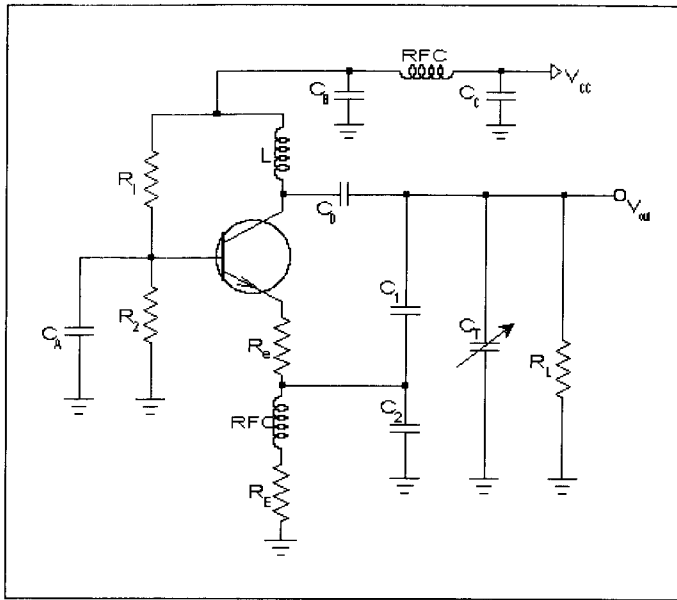

Figure 6a. Colpitts oscillator topology.
The standard topology for the Colpitts oscillator is shown in Figure 6a. In order to use the criteria for oscillation as defined in (1) and (2), this topology must